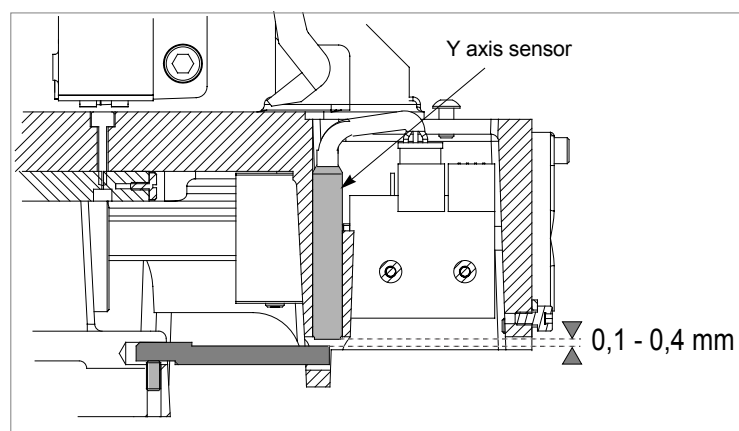

Fig. 60
- 7) remove the faulty sensor and replace it with a new one. Screw it in until it almost touches the underlying rod (fig. 60). Tighten the (M2) grub screw to lock the sensor into place.